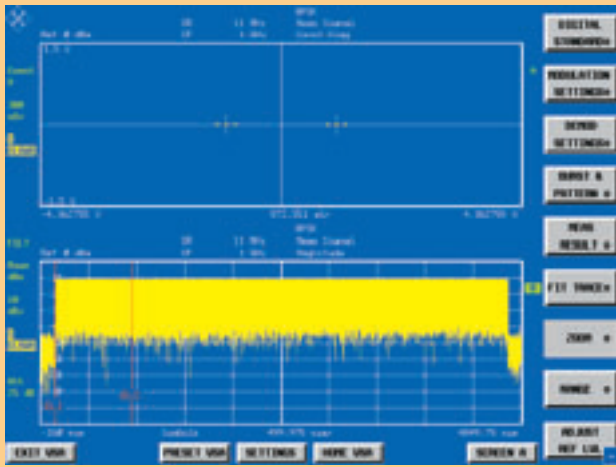

FIG 6
- Unique is the easy way of measuring bursts that contain different modulation modes. An IEEE 802.11b burst, for example, contains a BPSK-modulated synchronization component at the beginning, followed by a QPSK-modulated payload component. FIGs 6 and 7 show the constellation diagrams of the components and the amplitude characteristic of the entire burst.